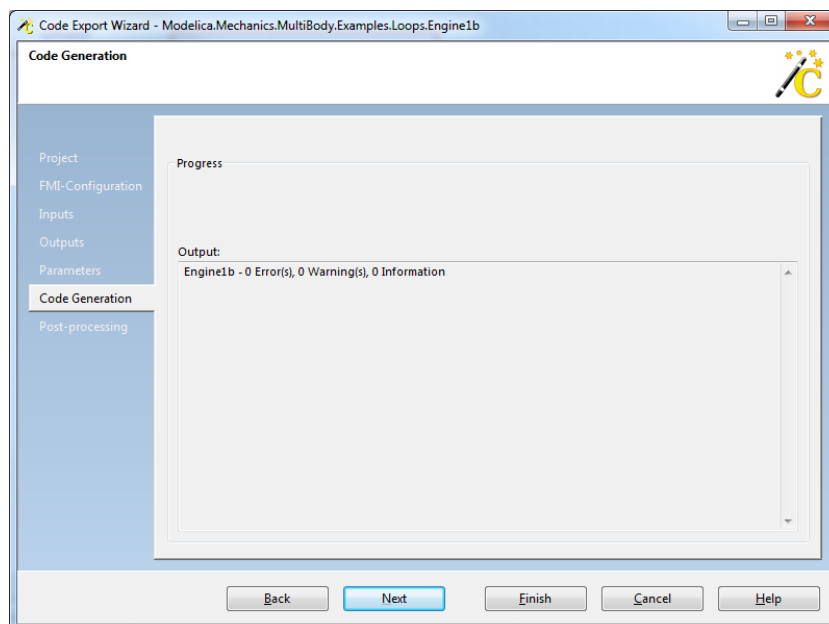

Figure 4: Code Generation page of Code Export Wizard.
11. The next tab will invoke code generation. Here, a Global Symbolic Analysis will be performed and the correspondent code for the Model will be generated. You will see a status bar on top which shows progress. When the output shows “Engine1b – 0 Error(s), 0 Warning(s), 0 Information”, the code generation was successful (see Figure 4). Click “Next”. If it was not successful, go back to Step 6.